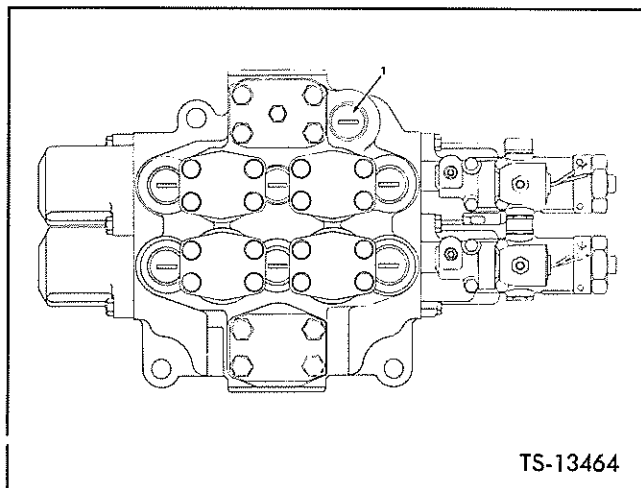

Fig. 25. Main Hydraulic Pressure Relief Cartridge
4. Start engine, place directional lever in NEUTRAL and accelerate to maximum rpm. Rotate bucket into full CLOSE position. When engine rpm drops to its lowest point, observe gauge reading. If gauge reading is not as specified in Specifications and Service Data section at rear of manual, shut down engine and replace main relief valve cartridge (Item 1 Figure 25).